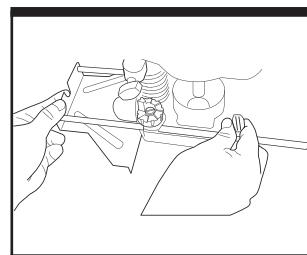

Fig. 8
6. INSTALAR LA GUÍA PARALELA (Fig. 8)